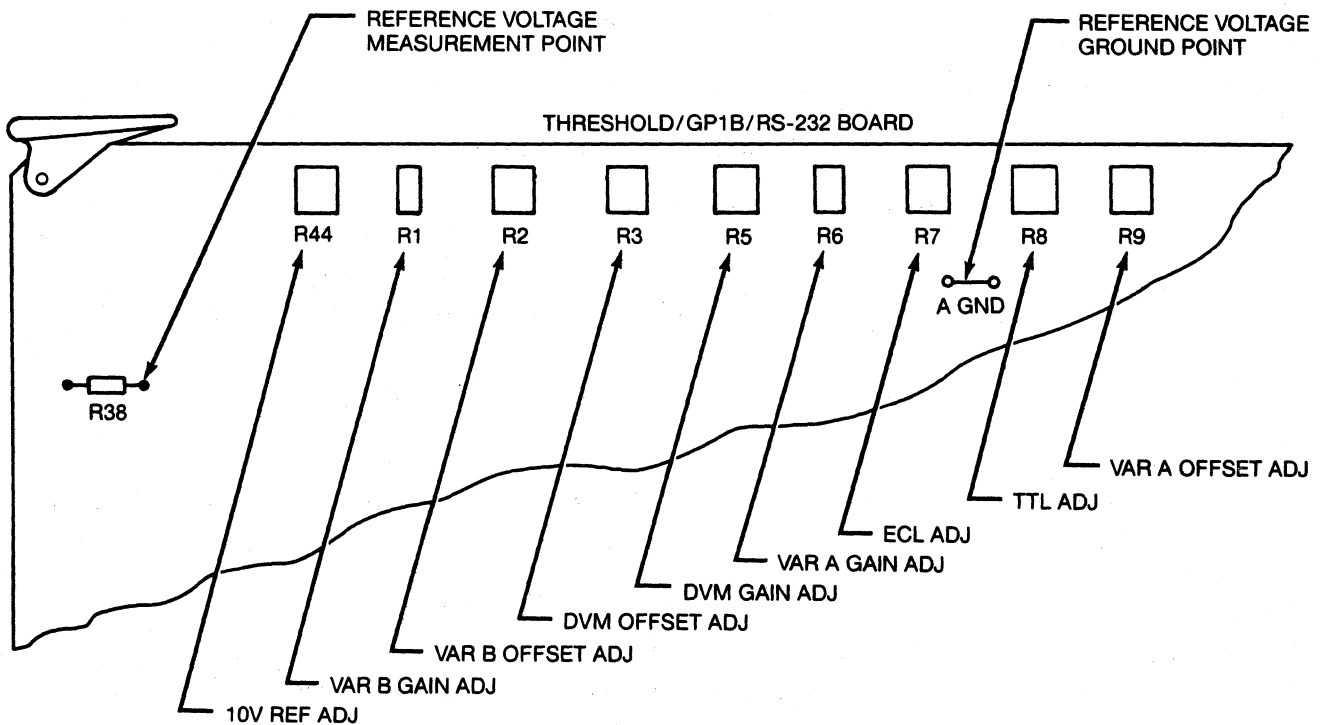

Figure 3-6. Threshold/GPIB/RS-232 Board Adjustments
The location of potentiometers to accomplish the various adjustments are shown in Figure 3-6. The following tools and test equipment are required to make these adjustments:
3. Connect external DVM reference (-) to the board A GND test point, and connect the DVM (+) input to the right side of resistor R38. (These connection points are shown in Figure 3-6.)
The user must provide an external voltage source of  $+20.000 \pm 3mV$  DC that is used to calibrate the K205 Digital Voltmeter (DVM) circuit. The adjustment controls for DVM GAIN (R5) and DVM OFFSET (R3) are located on the Threshold/GPIB/RS-232 Board shown in Figure 3-6.